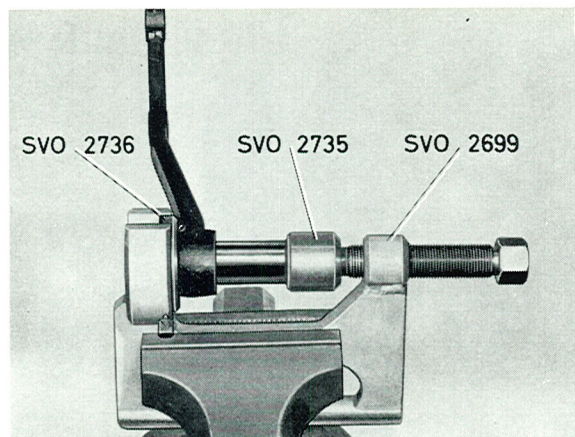

Fig. 6-51. Fitting the rubber bush, relay arm
5. Turn the relay arm and press in the bush with tools SVO 2699 + SVO 2736 and drift SVO 2735 (Fig. 6-51).
6. Place the relay arm in position, fit the washer (7) and the nut. Tighten the nut to a torque of 7.0—8.5 kgm (50—60 ft. lb.).